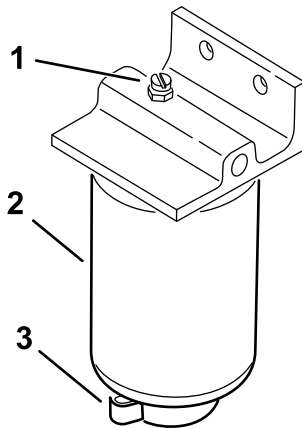

**Figure 36**
1. Close the fuel shutoff valve (Figure 36) below the fuel tank.